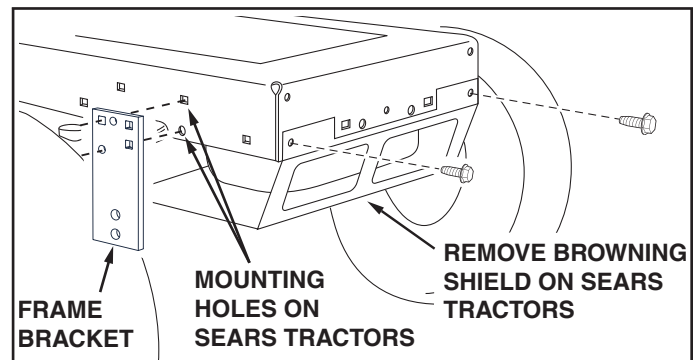

FIGURE 2 - SEARS TRACTOR SHOWN
STEP 2: (SEE FIGURE 2)
- Use figure 2 to help identify the mounting holes for Sears tractor frames. For other brand tractors, identify the two mounting holes by placing a frame bracket against the tractor frame **in front of** the front axle and finding two holes in the tractor frame that align with two of the holes in the frame bracket. The bracket can be flipped over to reverse the hole pattern. Refer also to the illustrations on page 9.